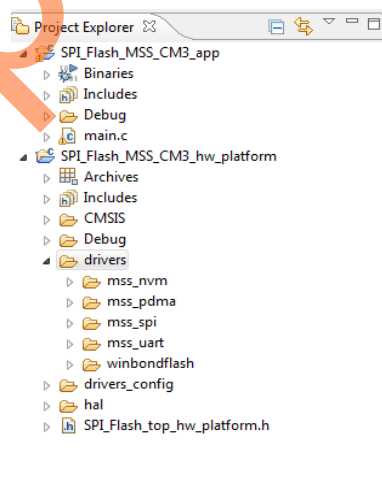

Figure 28 • Project Explorer window
9. Copy the **winbondflash** folder to the drivers folder of SPI_Flash_MSS_CM3_hw_platform project in the SoftConsole workspace, as shown in Figure 28.